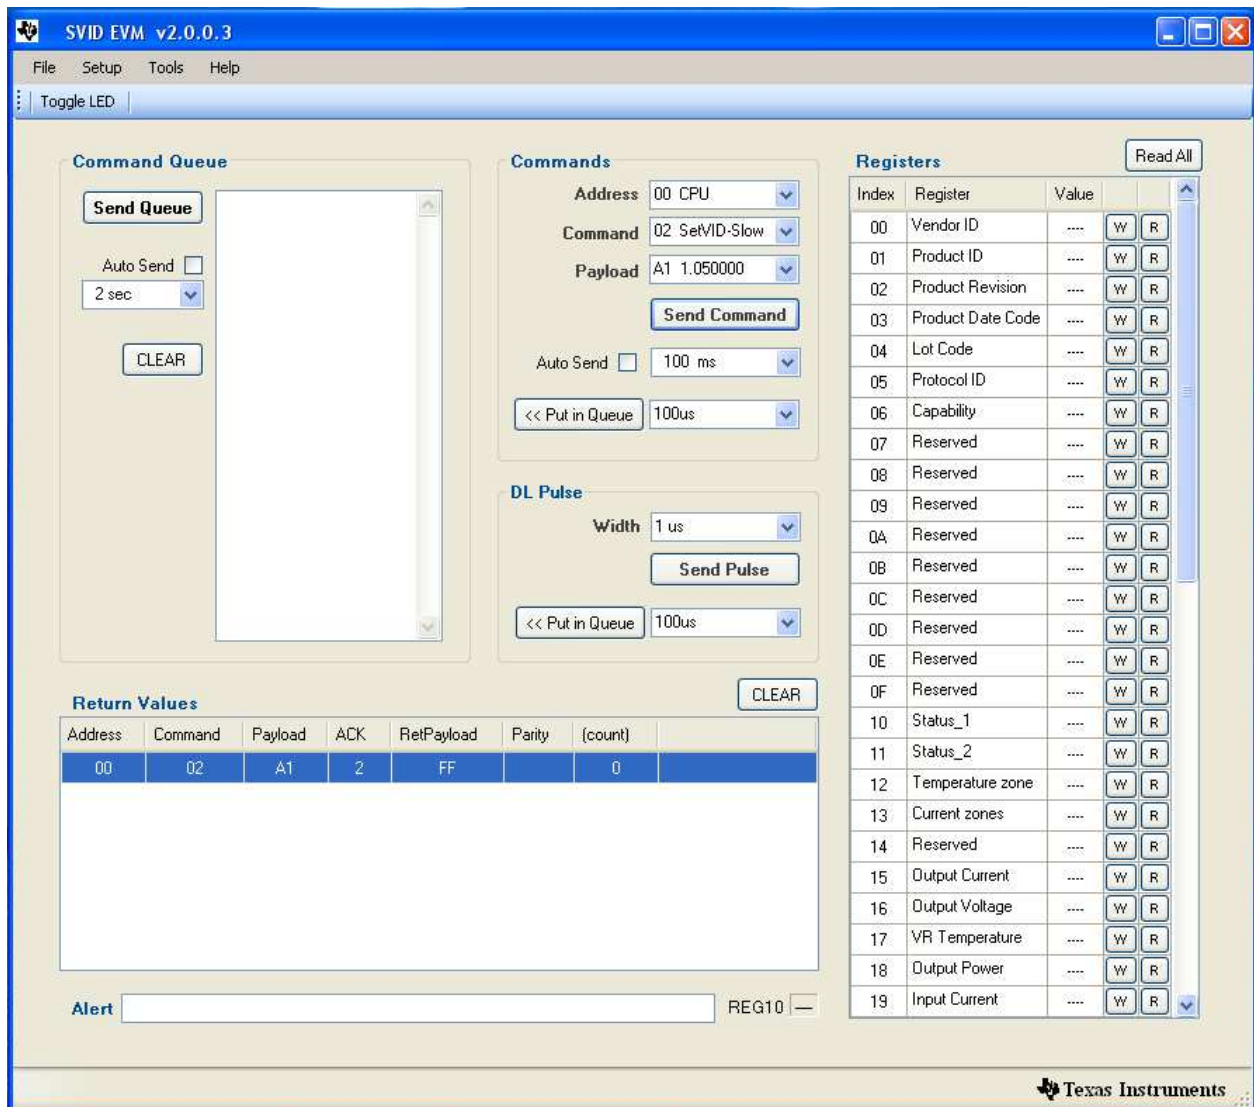

Figure 5. TPS59650EVM-753 CPU GUI set up Window
10. Double-Click the icon to launch the GUI program. The GUI window shown in Figure 5.
13. Click “send Command” and CPU CPGOOD LED will light up, See the GUI window as Figure 5.